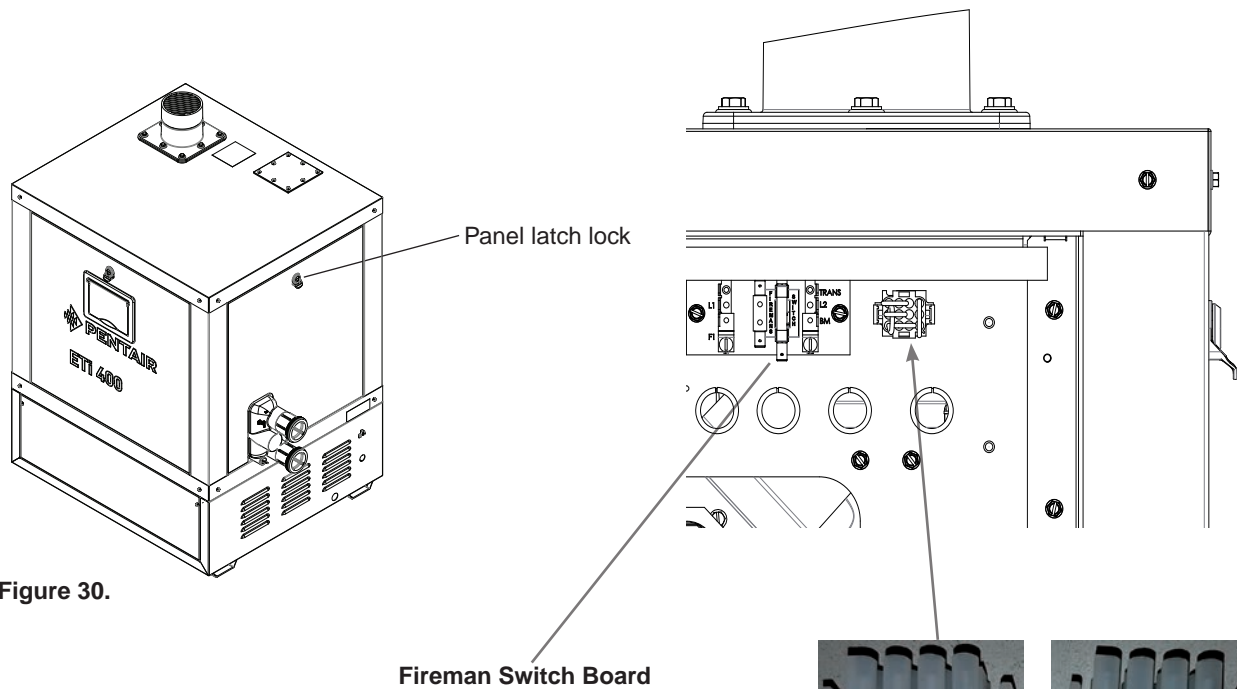

Figure 30.
- Connect the BLUE PLUG (120 VAC) into the 12-pin plug located on the electrical panel, see Figure 30).
- Connect the RED PLUG (240 VAC) into the 12-pin plug located on the electrical panel, see Figure 30).
2. Remove the front side door panel, see Figure 30 on page 38.
- Connect wires between the Fireman's Switch terminals on the heater and the relay. Connect wires from the controller or timer to the Fireman's Switch. Controller, timer or relay should be sized to handle 24 VAC at 0.5 Amp (because it will be completing the 24 VAC control board circuit on the heater as shown in Figure 30 on page 38). **DO NOT** apply line voltage to the Fireman's Switch terminals. Use 18 gauge wire with a minimum 3/64-in (1.2 mm) thick insulation rated for a temperature rise of at least 105°C.